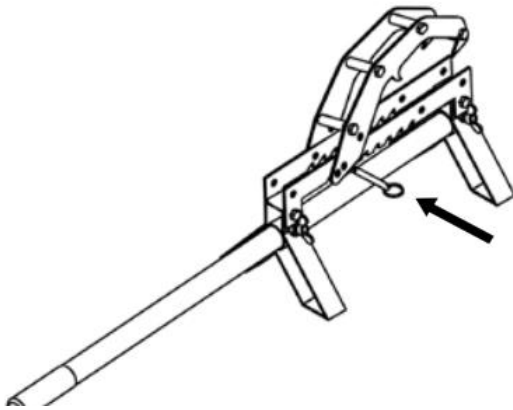

Figure 5
9. Finally (if not already done during assembly in Chapter 1), mount the end stop as shown in Figure 5